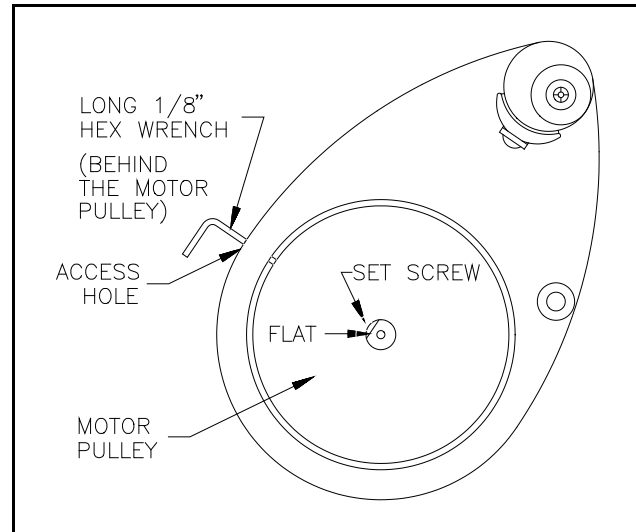

Figure 7. Remove and install the motor pulley
- 6.7.4 Loosen the height adjustment handle and rotate the bracket so the Spindle is at the top and to the back. See Figure 7. Insert the long 1/8" hex wrench through the access hole and loosen the set screw in the motor pulley hub. Remove the motor pulley. (Use a screw driver through the access hole to pry the pulley outward.)
- 6.7.5 To install the new or recrowned pulley, first rotate the lathe shaft so the flat faces the access hole. See Figure 7.